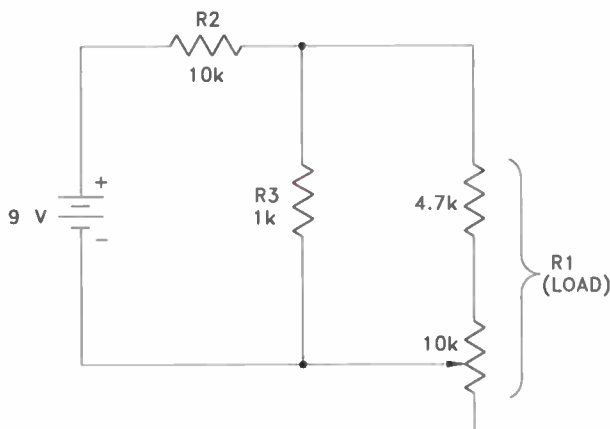
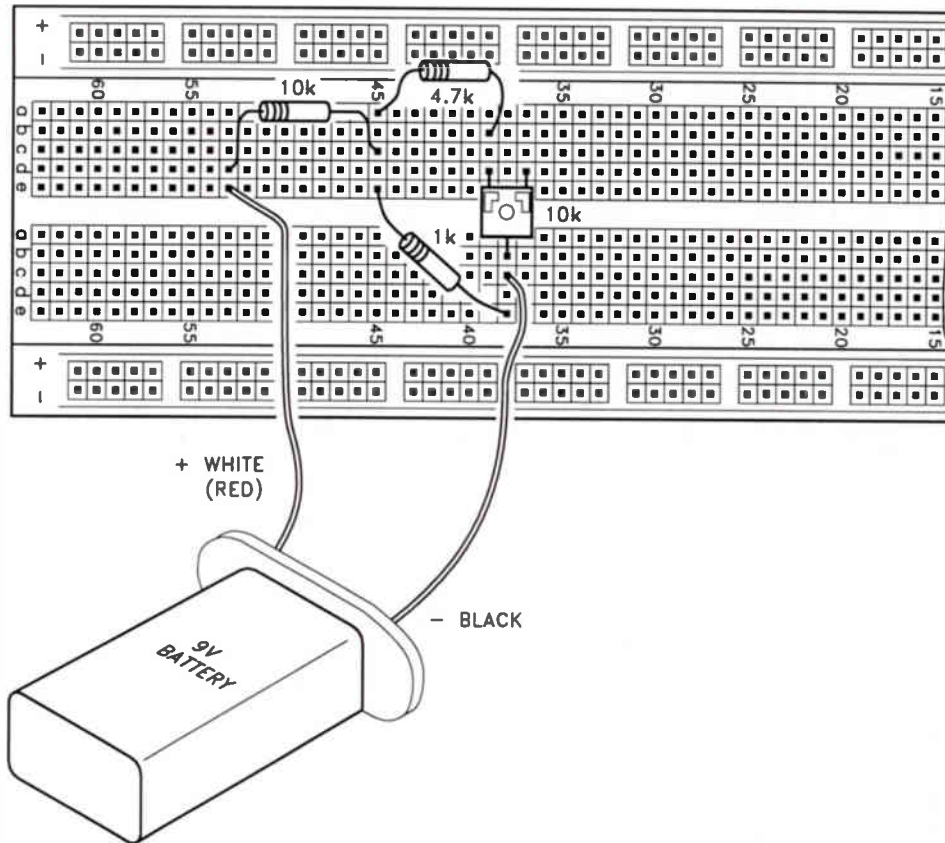

Figure 5-1. A schematic of the circuit for Step 1.
Figure 5-2. Layout of the circuit for Step 1.
Step 1. Build the circuit shown in Figure 5-1. A pictorial layout of this circuit is shown in Figure 5-2, on the next page. Use the jumper cables supplied with this kit so that you can clip both leads of the meter to the circuit under test. Also make sure that the red test lead of your DMM is connected to the V jack. You are now ready to see how the circuit works.
Step 2. Measure the load voltage in Figure 5-1 by clipping the black lead from the DMM
to the negative lead of the battery and the red lead to the junction of the 4.7k resistor and the 10k resistor (R2). The meter is now connected across the 4.7k resistor and part of the 10k potentiometer. These two parts make up the load resistor, R1, in Figure 5-1.